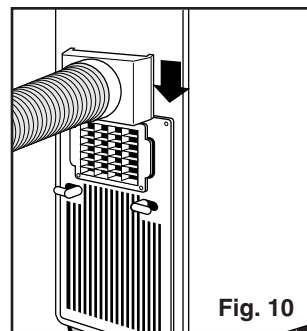

Fig. 10
1) Install the **Flexible Exhaust Hose** *Fig. 10* and the **Adjustable Window/Patio Door Slider Kit** as depicted in *Fig. 2, 2a & 2b (pg. 5)*.